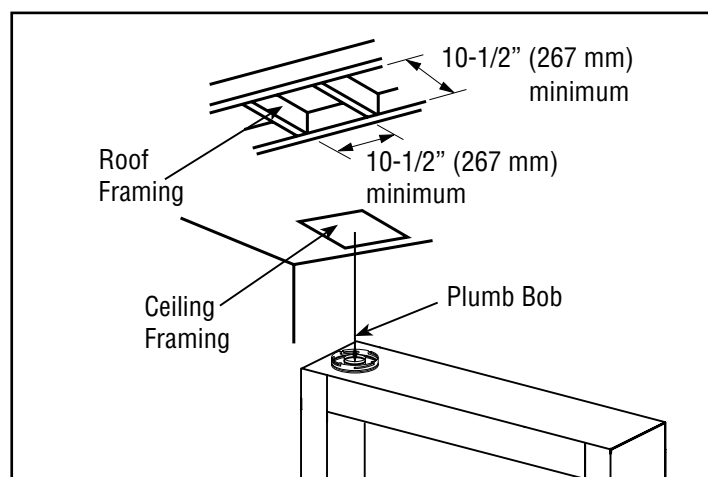

Figure 17 - Framing the ceiling opening
- 3. Frame the ceiling opening**—If the vertical route is to penetrate a ceiling, use plumb line to locate the center above the fireplace. Cut and/or frame an opening, 10 1/2 x 10 1/2" (267 x 267 mm) inside dimensions, about this center (*Figure 17, Page 19*).
2. **Frame the ceiling opening**—Use a plumb line from the ceiling above the fireplace to locate the center of the vertical run. Cut and/or frame an opening, 10 1/2 x 10 1/2" (267 x 267 mm) inside dimensions, about this center mark (**Figure 17**).